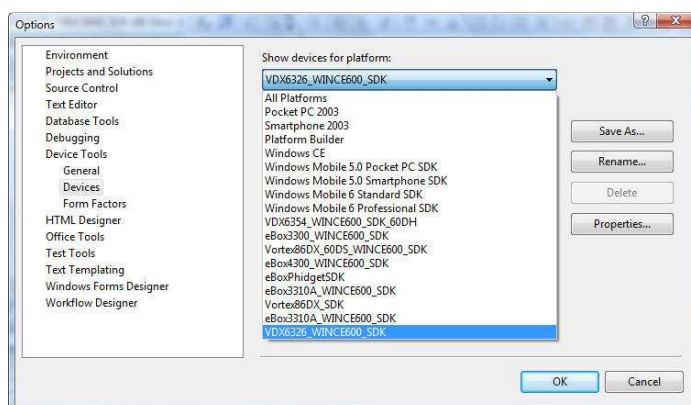

Fig. N09 - VS2008 Tools Options
- On the right, select **VDX6326_WINCE600_SDK** from the list of available platform in the **Show devices for platform** combo text box, as shown in Figure N09.